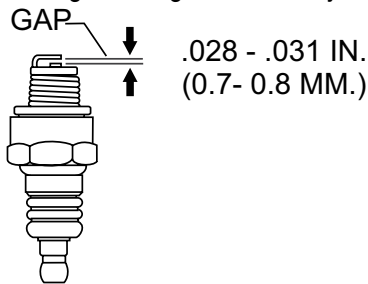

Figure 28. Spark Plug Gap
1. Remove and clean spark plug (Figure 28) with a wire brush if it is to be reused. Discard spark plug if the insulator is cracked or chipped.